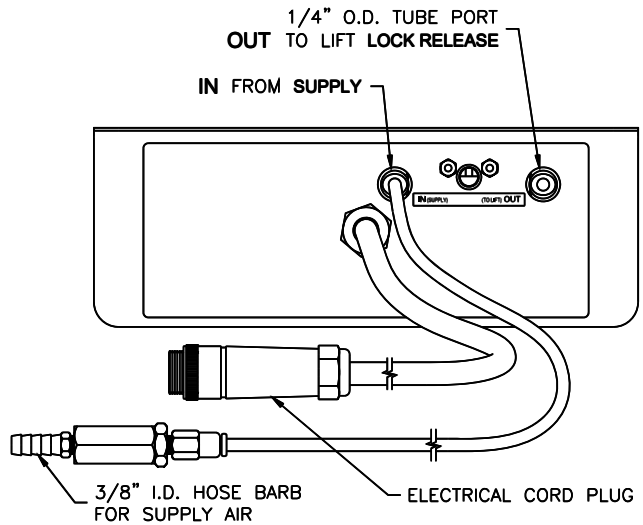

Fig 8 – Control Box Connections
- 10) Insert the 1/4" O.D. lock release tube into the 1/4" tube union adapter in the lift and into the 1/4" tube port on the back of the control box labeled "OUT (TO LIFT)", Fig 8.
- 11) Connect the shop air supply to the 3/8" Hose Barb attached to the tube labeled "IN (supply)" on the back of the control box, Fig 8.
- 13) Insert the Control Box electrical cord plug into the mating receptacle mounted at the bottom of the motor wiring box. Twist plug collar to lock in place, Fig 8.